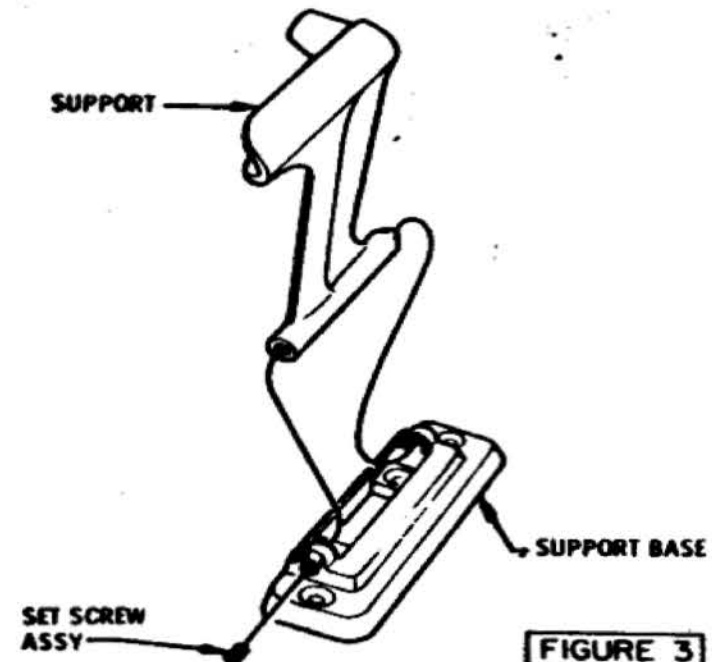

FIGURE 3
2. FASTEN ALL SUPPORTS TO BASES. SEE FIG. 3.